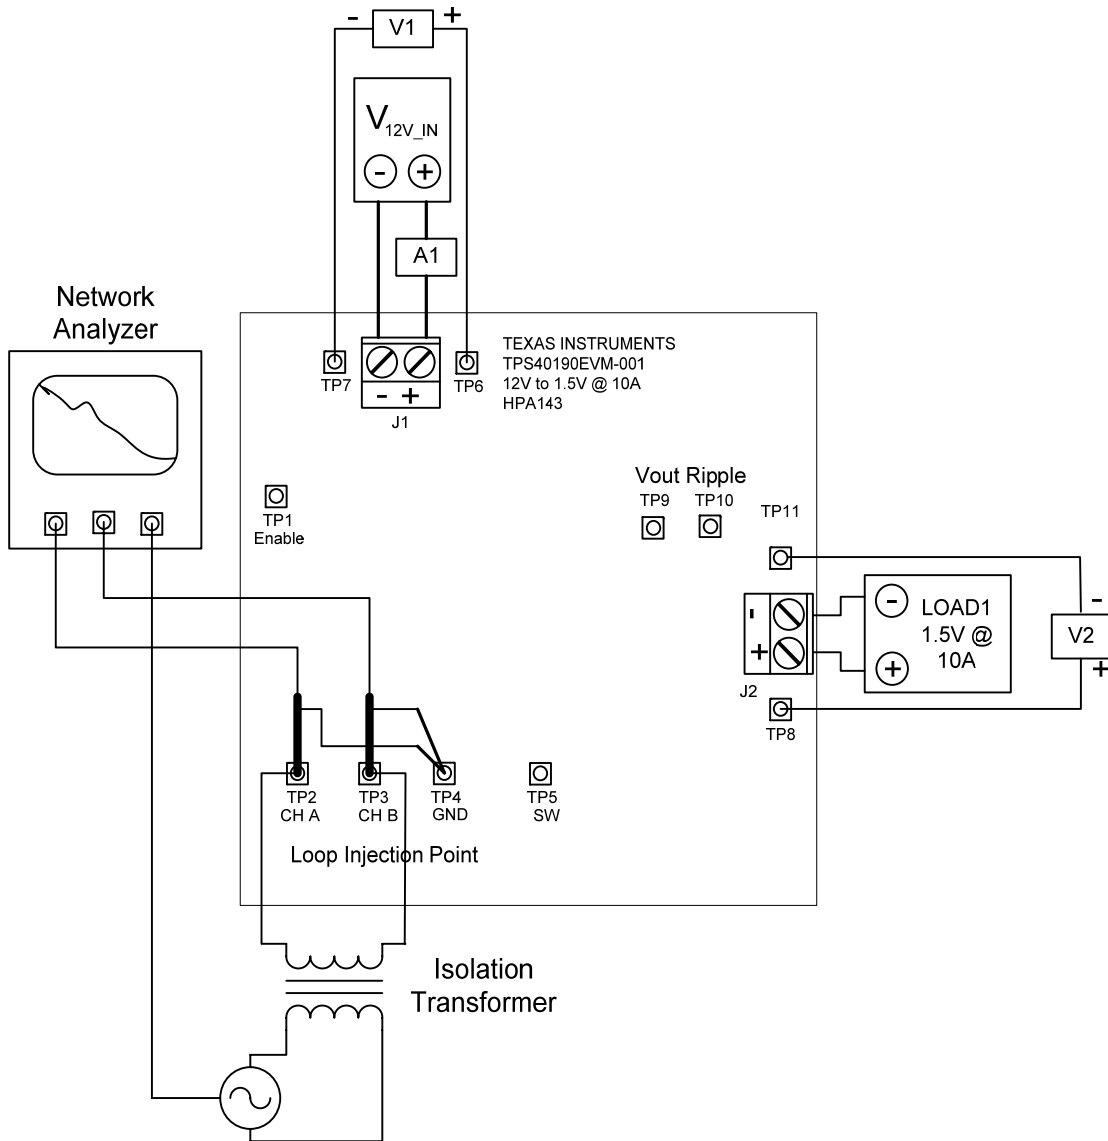

Figure 4: Control Loop Measurement Setup
1. Connect 1kHz – 1MHz Isolation Transformer to TP2 and TP3 as show in Figure 4
2. Connect Input Signal Amplitude Measurement Probe (Channel A) to TP2 as shown in Figure 4
3. Connect Output Signal Amplitude Measurement Probe (Channel B) to TP3 as shown in Figure 4
4. Connect Ground Lead of Channel A and Channel B to TP 4 as shown in Figure 4